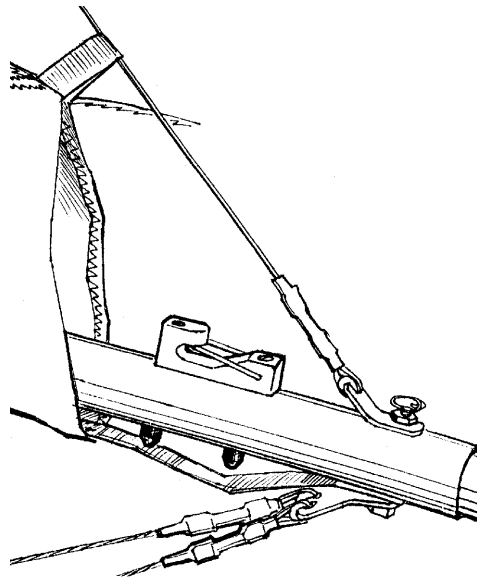

Fig.17
2.1.18. Pass top rear wire through the tape loop near the connection of the keel pocket and the sail. Secure the tang of the bottom rear wires, the keel mount webbing (from the underside) and the tang of the top rear wire (from the upper side) using the bolt fixed with the nut and the safety ring (Fig.17).